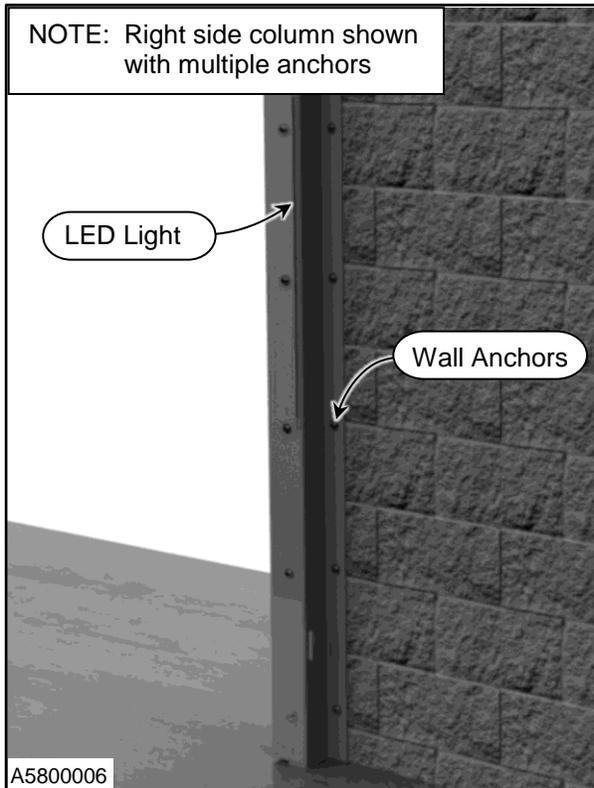

Figure 17
3. Inspect for loose or worn anchor(s). (See Figure 17 and 18)